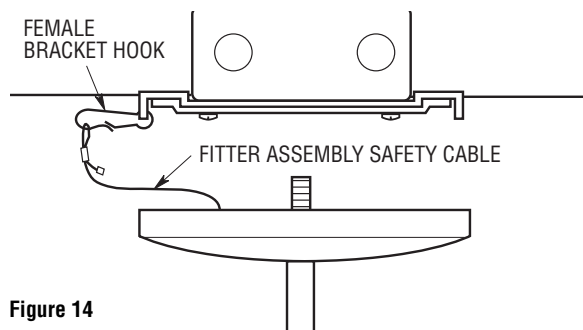

Figure 14
6. Hook the fitter assembly safety cable to the hook attached to the female bracket to proceed with wiring of light fixture (Figure 14).